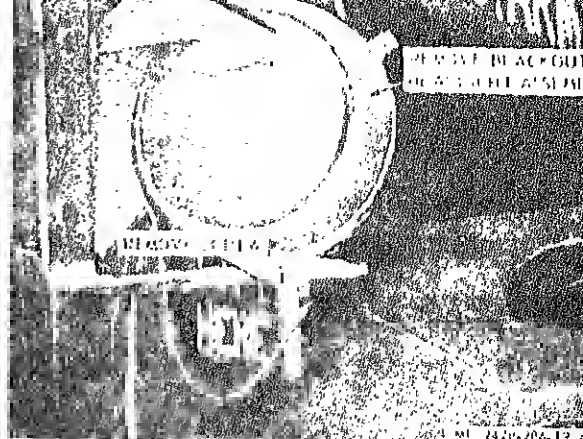

Figure 4-10. Blackout headlight assembly, removal and installation.
a. *Removal.* Refer to figure 4-10 and remove blackout headlight assembly (para 3-15b).
- (1) Clean parts and dry thoroughly.
- (2) Inspect for cracks, breaks and other damage. Replace defective blackout headlight assembly as necessary.
c. *Installation.* Refer to figure 4-10 and install blackout headlight assembly.